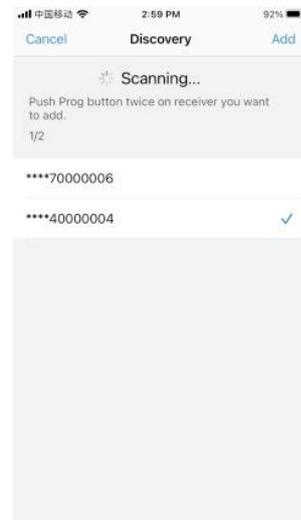

Figure 6
5. Once the device/devices are discovered, tick the device/devices and tap “Save” button, they will be added successfully. (as shown in Figure 6)